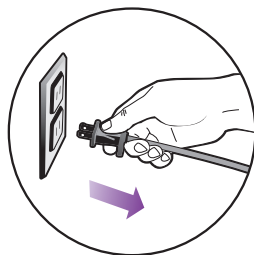

fig. 1
- 1 When you have finished using the **Light & Easy™** Steam Mop, unplug the cord from the outlet and place the mop into the upright position (**fig. 1**) and let the unit cool 3-5 minutes. Release steam by pumping the handle several times.